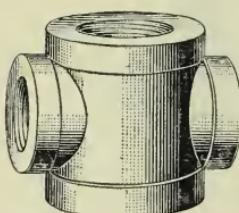

FIG. 23
**34.** **Crosses** are fittings used where two branches opposite each other are taken from a main run at an angle of  $90^\circ$  with it, as shown in Fig. 23. Although they are used extensively, their use is objectionable, as the flow from the main in two directions taken from the same point causes the current to flow unevenly, unless the branches are very well equalized. In many cases, the branch currents cut off the flow in the